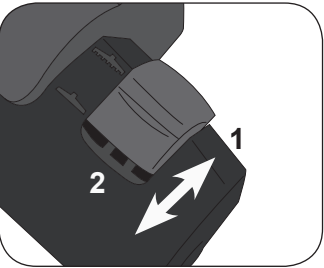

Fig. 4
Press the brush switch (A) to position (2) for cleaning hard surfaces such as floors (Fig. 4).
Press the brush switch (A) to position (1) for the cleaning soft surfaces such as carpets (Fig. 4).